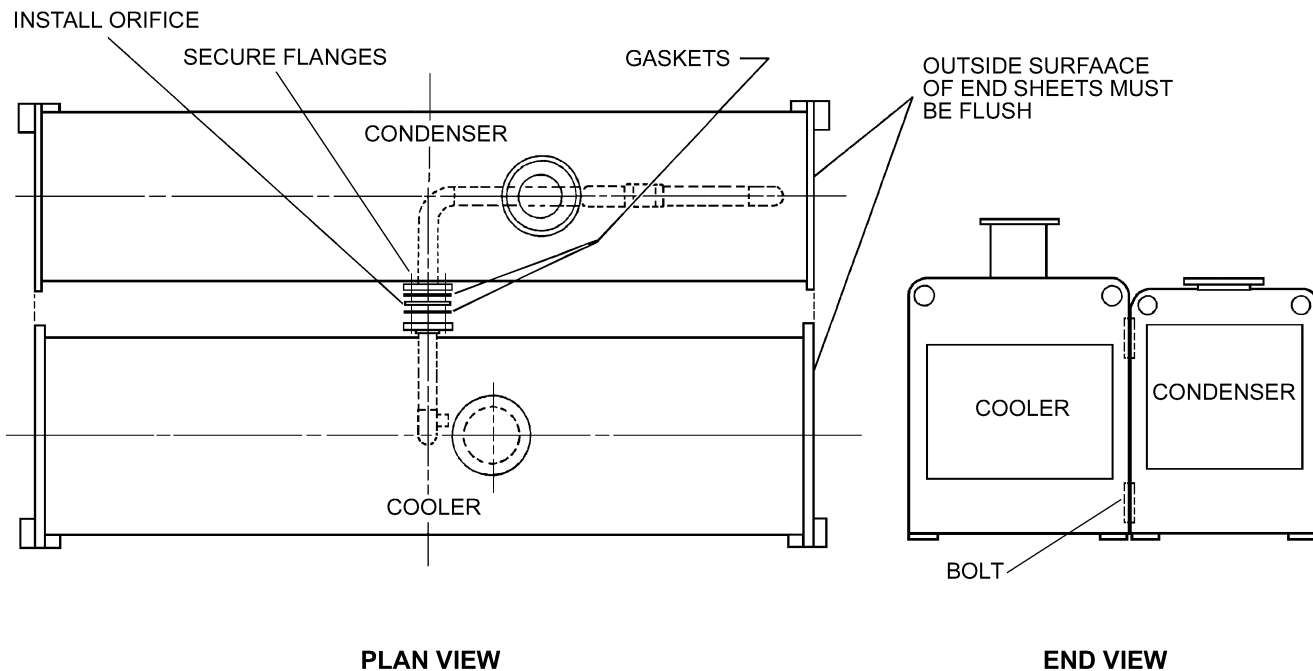

FIG. 2 – FORM 7 SHIPMENT
FORM 7 SHIPMENT (SEE FIG. 2)
3. Bolt tube sheets together using cap screws, lock washers and nuts. (See Fig. 2.)